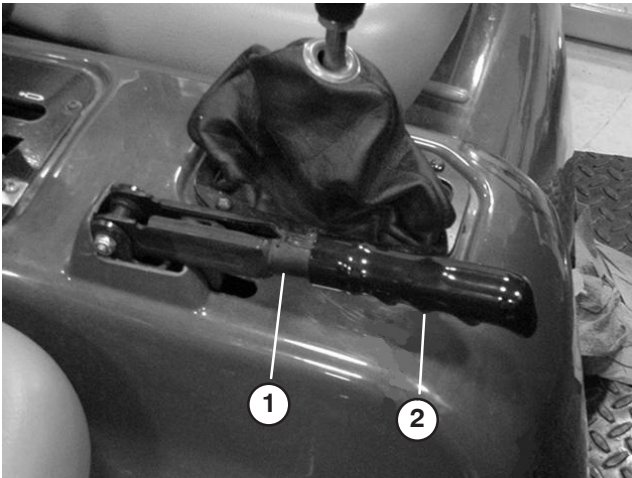

Figure 47
1. Remove rubber grip from parking brake lever (Fig. 47)